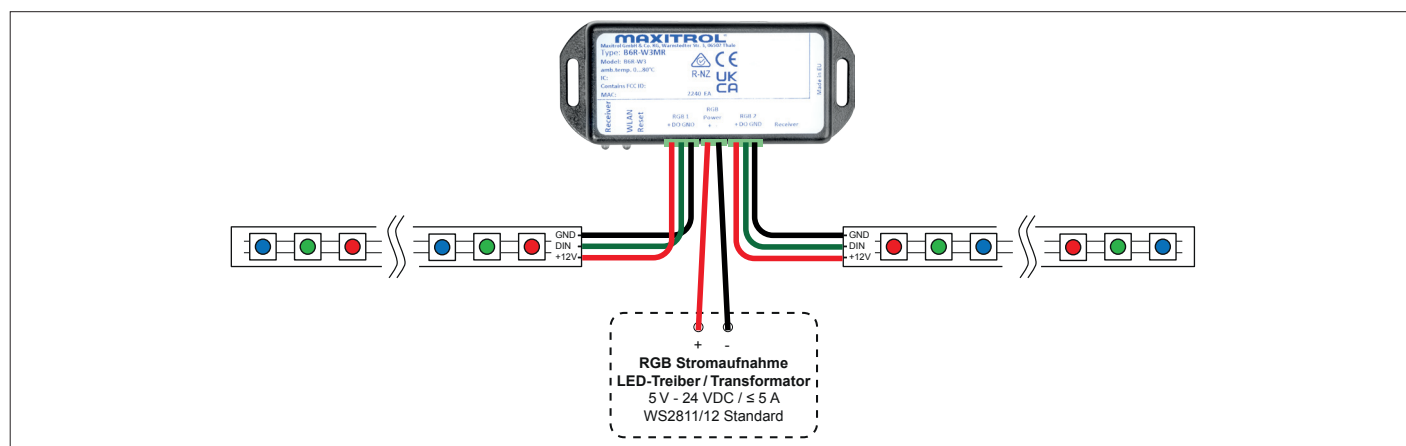

Figure 25: LED setup 1 (Direct connection)
- The power has to be connected to the LED RGB external power input of the Wi-Fi Box. (see figure 25)